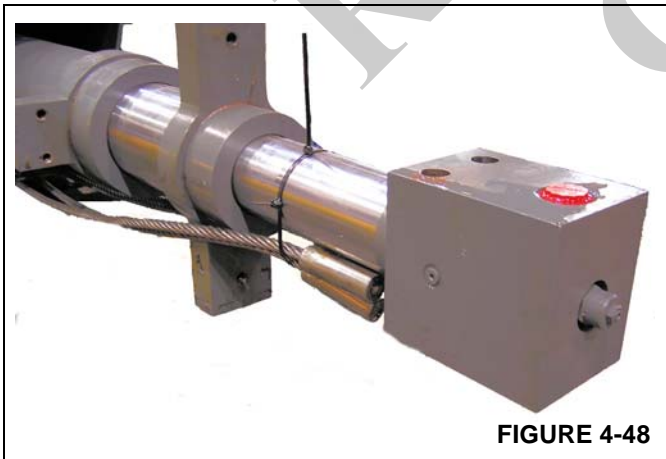

FIGURE 4-48
5. To aid in the installation of the Fly Section into the Outer Mid Section, apply lubricant to the wear pad contact areas of the Fly Section and secure the Extend Cables to the Tele Cylinder. (Figure 4-48)
- a. Rotate the Port Block as shown in Figure 4-48.